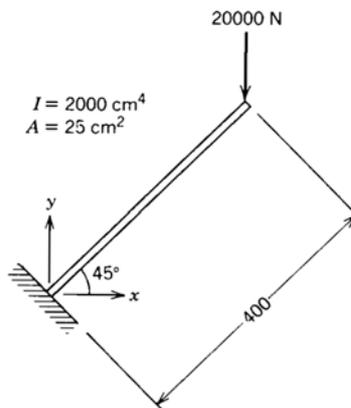

Figure 8
5. Calculate the nodal forces (internal) for member two of the configuration shown in Figure 8.